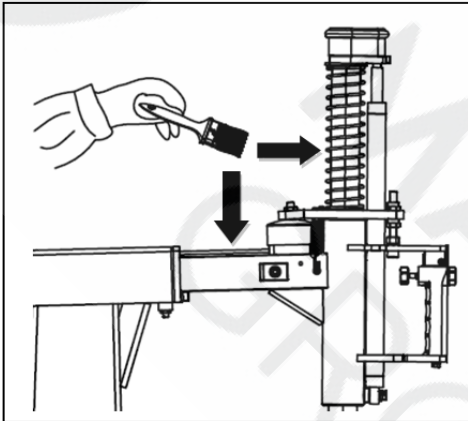

FIG38
- Use the diesel oil to wash the hexangular shaft and quadric horizontal arm (Fig38).